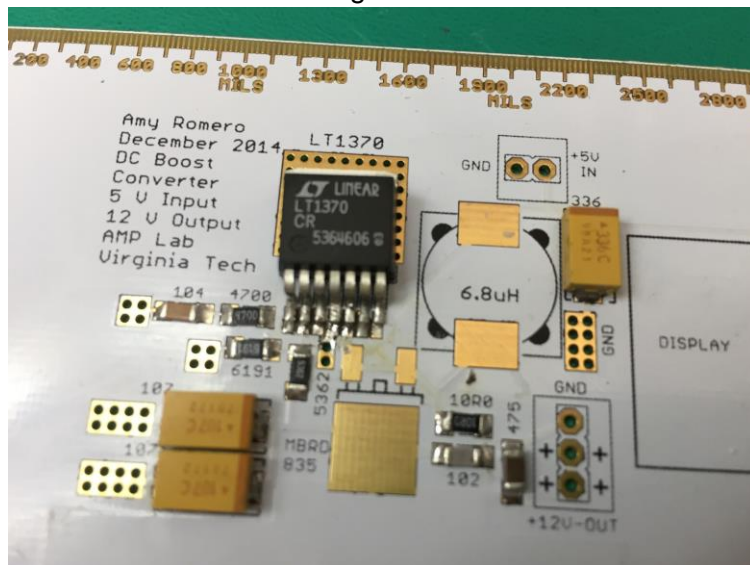

Figure 5.
- f. Repeat step (e) until the rest of the legs are soldered on. (Figure 5)